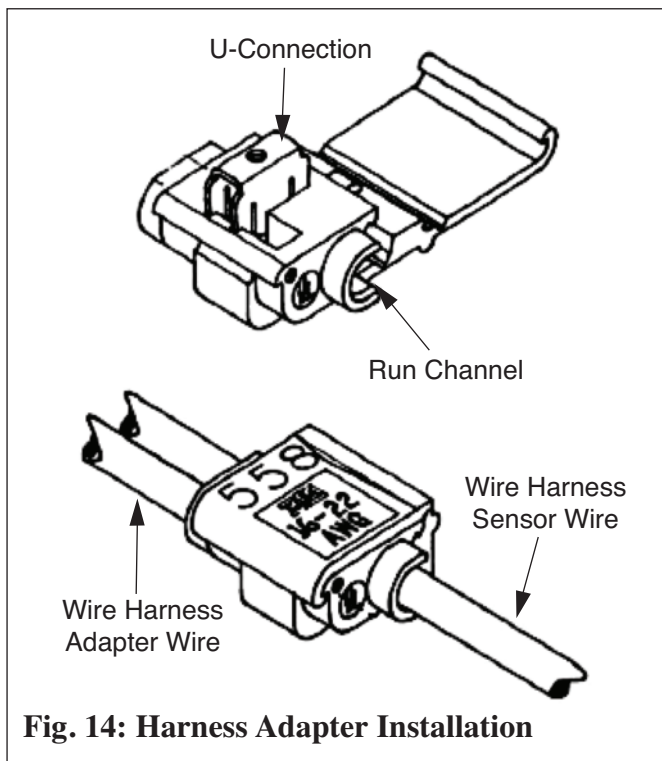

Fig. 14: Harness Adapter Installation
- Place the unstripped wire harness wire into the run channel of the Wire Tap and close the side cover (Fig. 14).